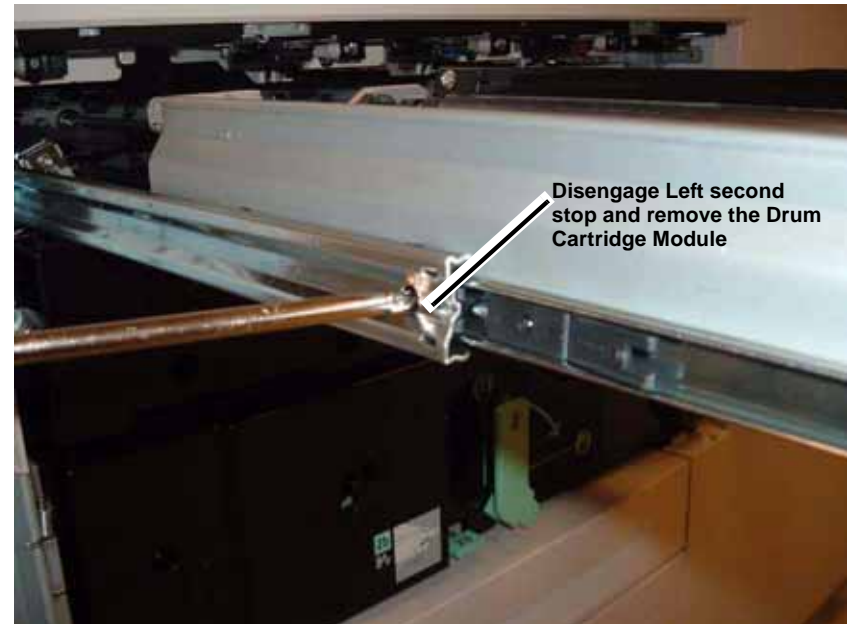

Figure 4 Removing the Drum Cartridge Module
9. Remove the Drum Cartridge Module (Figure 4).